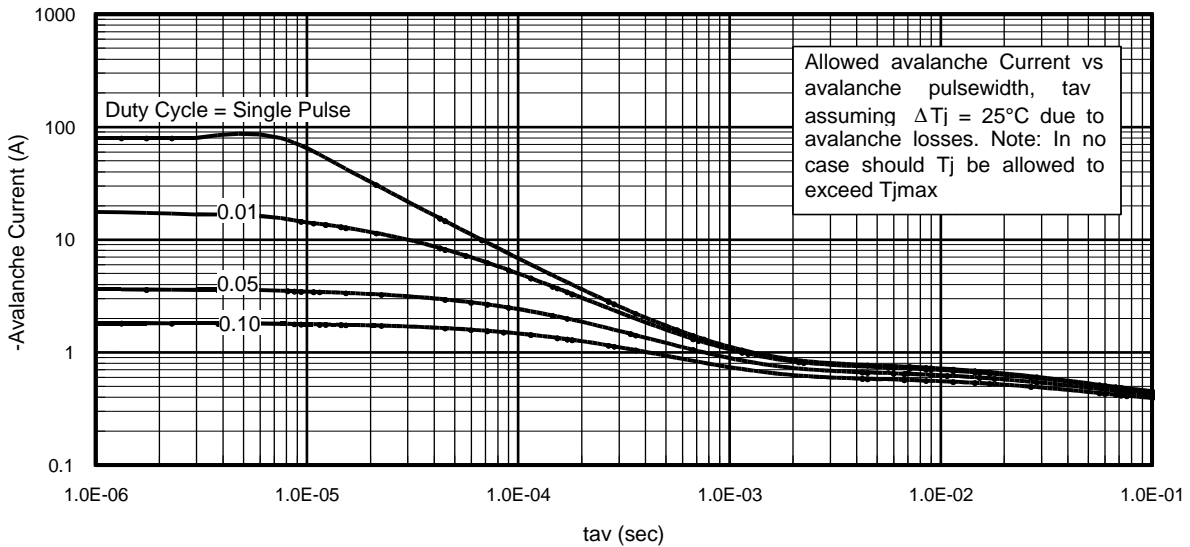

Fig 14. Typical Avalanche Current Vs. Pulsewidth
Notes on Repetitive Avalanche Curves , Figures 14, 15:
7. ΔT = Allowable rise in junction temperature, not to exceed T_{jmax} (assumed as 25°C in Figure 14, 15).
- ① Repetitive rating; pulse width limited by max. junction temperature.
- ② Starting $T_J = 25^\circ\text{C}$, $L = 3.89\text{mH}$, $R_G = 25\Omega$, $I_{AS} = -10\text{A}$.
- ③ Pulse width $\leq 400\mu\text{s}$; duty cycle $\leq 2\%$.
- ④ R_{θ} is measured at T_J of approximately 90°C .
- ⑤ Limited by T_{jmax} . See Figs. 14, 15, 17a, 17b for repetitive avalanche information